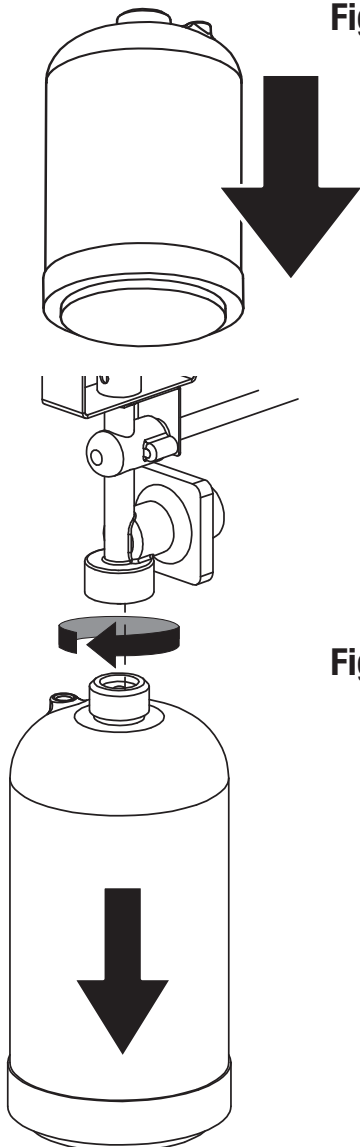

Figure 5
2. Rotate LP gas tank counterclockwise until it is loose. (Figure 5).